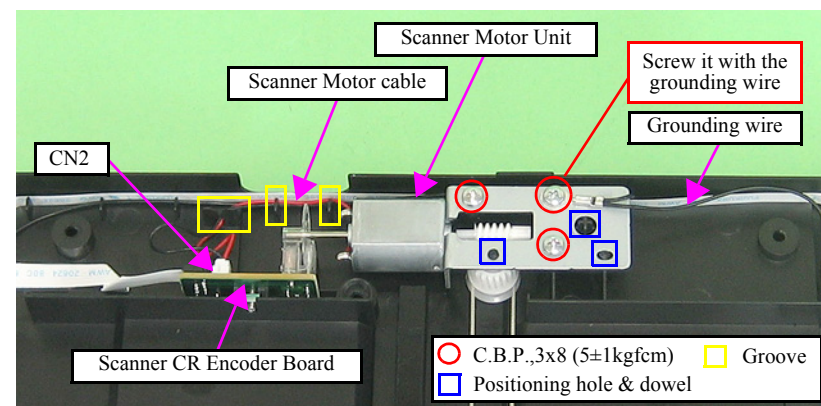

Figure 4-115. Removing the Scanner Motor Unit
- Route the Scanner Motor cable through the grooves (x3) of the Scanner Lower Housing. (See Fig. 4-115.)
- Align the positioning holes (x3) of the Scanner Motor Unit with the dowels (x3) of the Scanner Lower Housing. (See Fig. 4-115.)